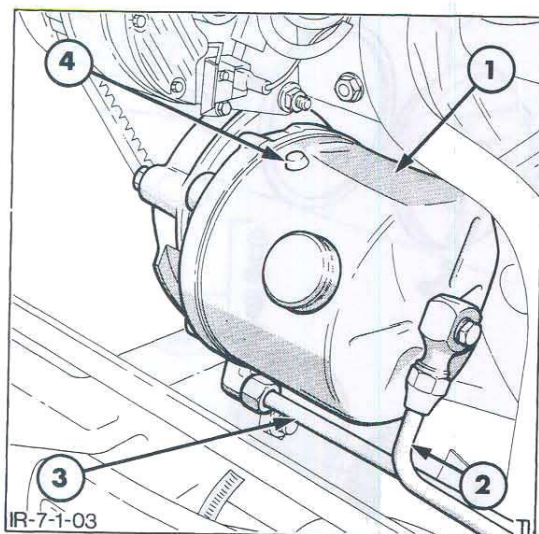

Figure 34
2. Disconnect the pump pressure and return tube and allow the oil to drain. Refer to Figure 34.